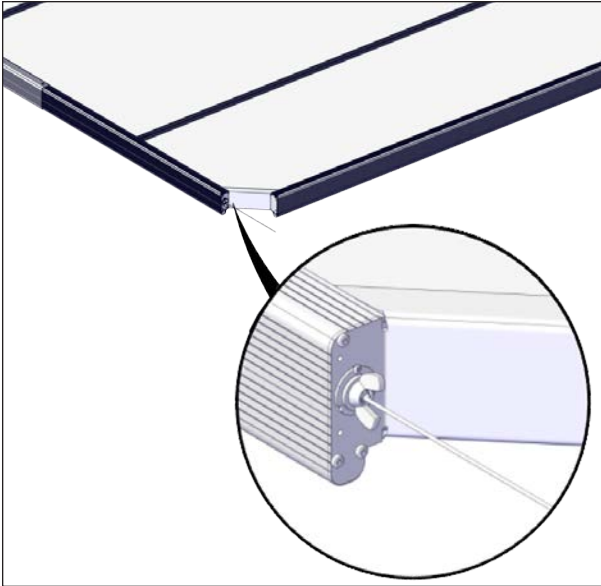

FIGURE 61: INSERT GRIPLOCK INTO THE HEXAGONAL GUIDE BUSHING
8. Insert the Griplock assembly into the hexagonal guide bushing (located in the outside corner bracket support), pull on the wire while pushing on the Griplock as much as possible, see Figure 61.